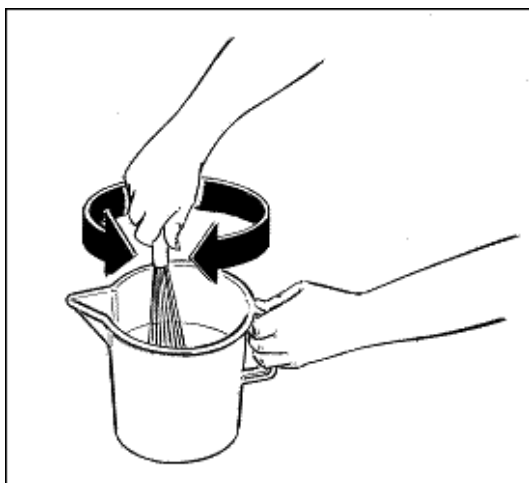

Fig. 51
- Dilute and mix the product in a separate container according to the manufacturer's instructions (see Fig. 51).